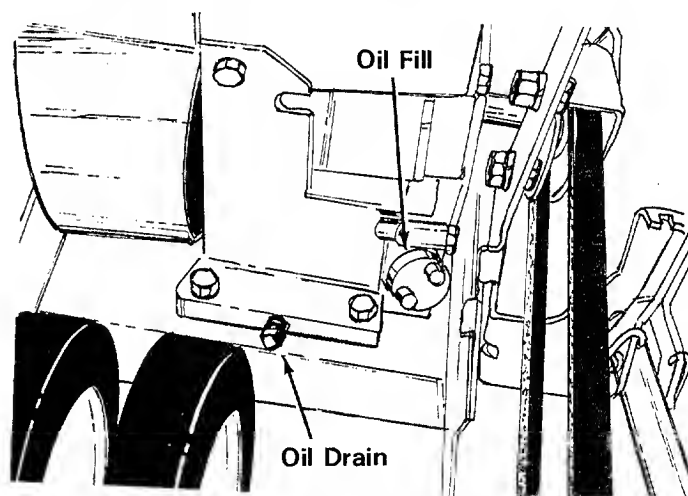

FIGURE 15
1. Fill the crankcase with oil using a high quality detergent oil classified "For Service MS." Nothing should be added to the recommended oil. SUMMER — Use SAE 30. WINTER — (Below 40°F.) Use SAE 5W-20 or SAE 10W. Place the engine level. Remove filler plug. FILL THE OIL SUMP TO POINT OF OVERFLOW. Pour slowly. See figure 15.
Check oil level before starting engine and after every 5 hours of operation. Add oil as necessary to keep level full to point of overflowing. Before removing plug, clean area around plug to prevent dirt from entering oil fill opening. Refer to figure 15.